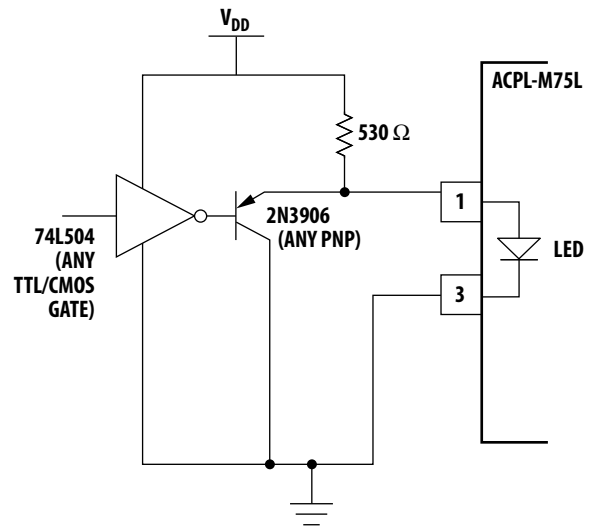

Figure 15. TTL interface circuit for the ACPL-M75L families.
1. Use of drive circuits where current is shunted from the LED in the LED "off" state (as shown in Figures 15 and 16). This is beneficial for good CM_H .
- Using any one of the drive circuits in Figures 15-17 with $I_F = 6\text{mA}$ will result in a typical CMR of $10\text{ kV}/\mu\text{s}$ for ACPL-M75L, as long as the PC board layout practices are followed. Figure 15 shows a circuit which can be used with